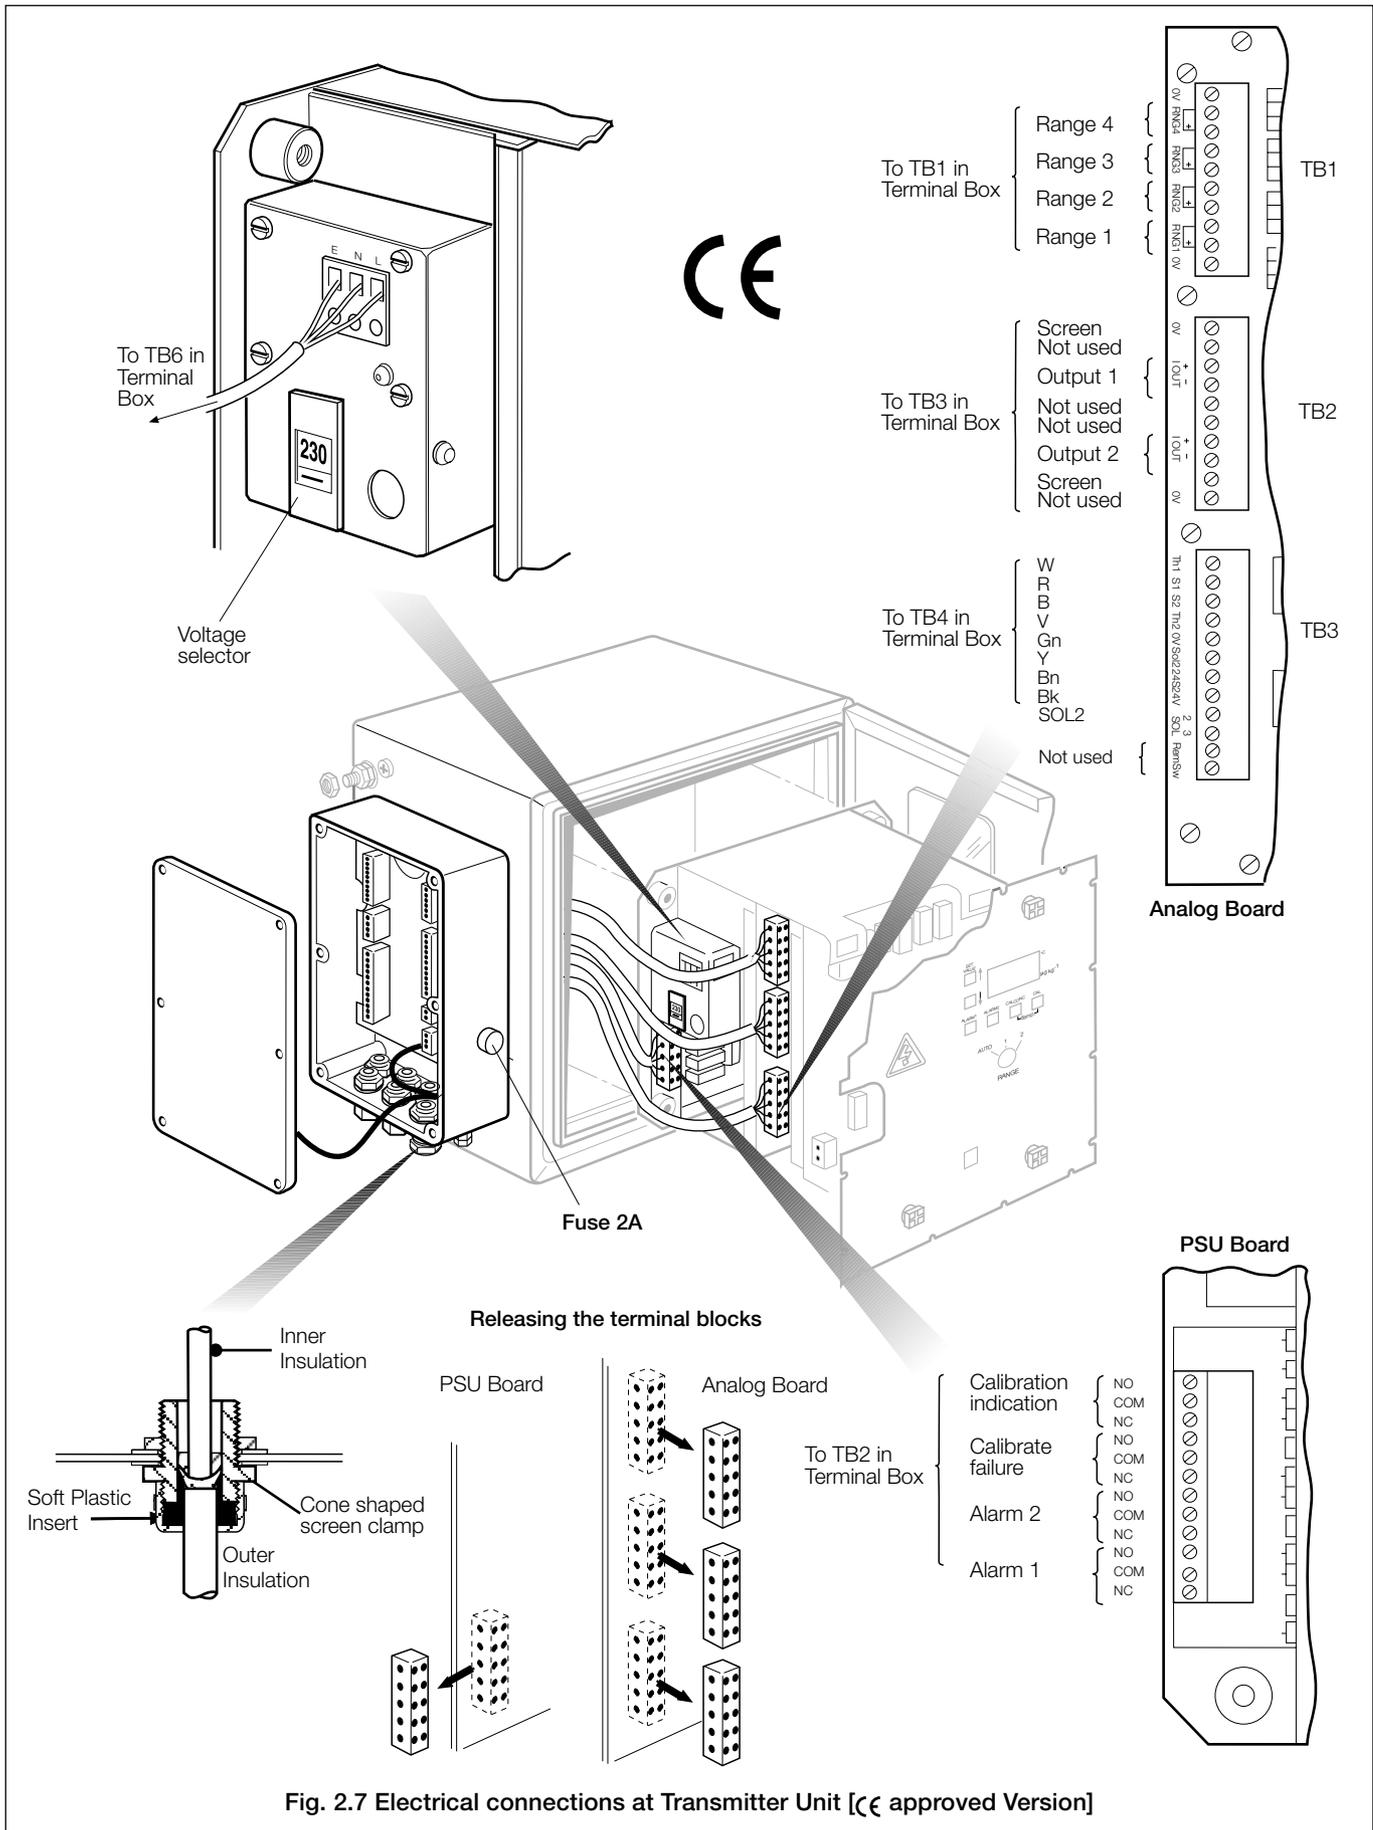

Fig. 2.7 Electrical connections at Transmitter Unit [CE approved Version]
2.1.3 Transmitter Units (Fig. 2.7 and 2.8)
- f) After recording the position of the connection blocks on the circuit boards – see Fig. 2.7, remove the connection blocks from the analog board by applying force outwards from the face of the analog board. To remove the connector from the PSU board, slide the connector sideways towards the vertical edge of the board.
- g) Loosen the associated screws to release the three wires from the mains input connector on the PSU Board – see Fig. 2.7.
A voltage selector is located on the chassis unit. This voltage selector must be set to the correct value before connecting the instrument to the supply – see Fig. 2.7.